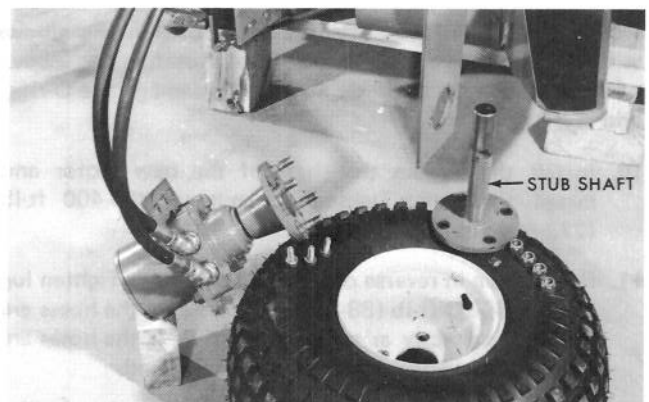

Figure 24
6. Remove the lug nuts and remove the stub shaft and wheel (Fig. 24).